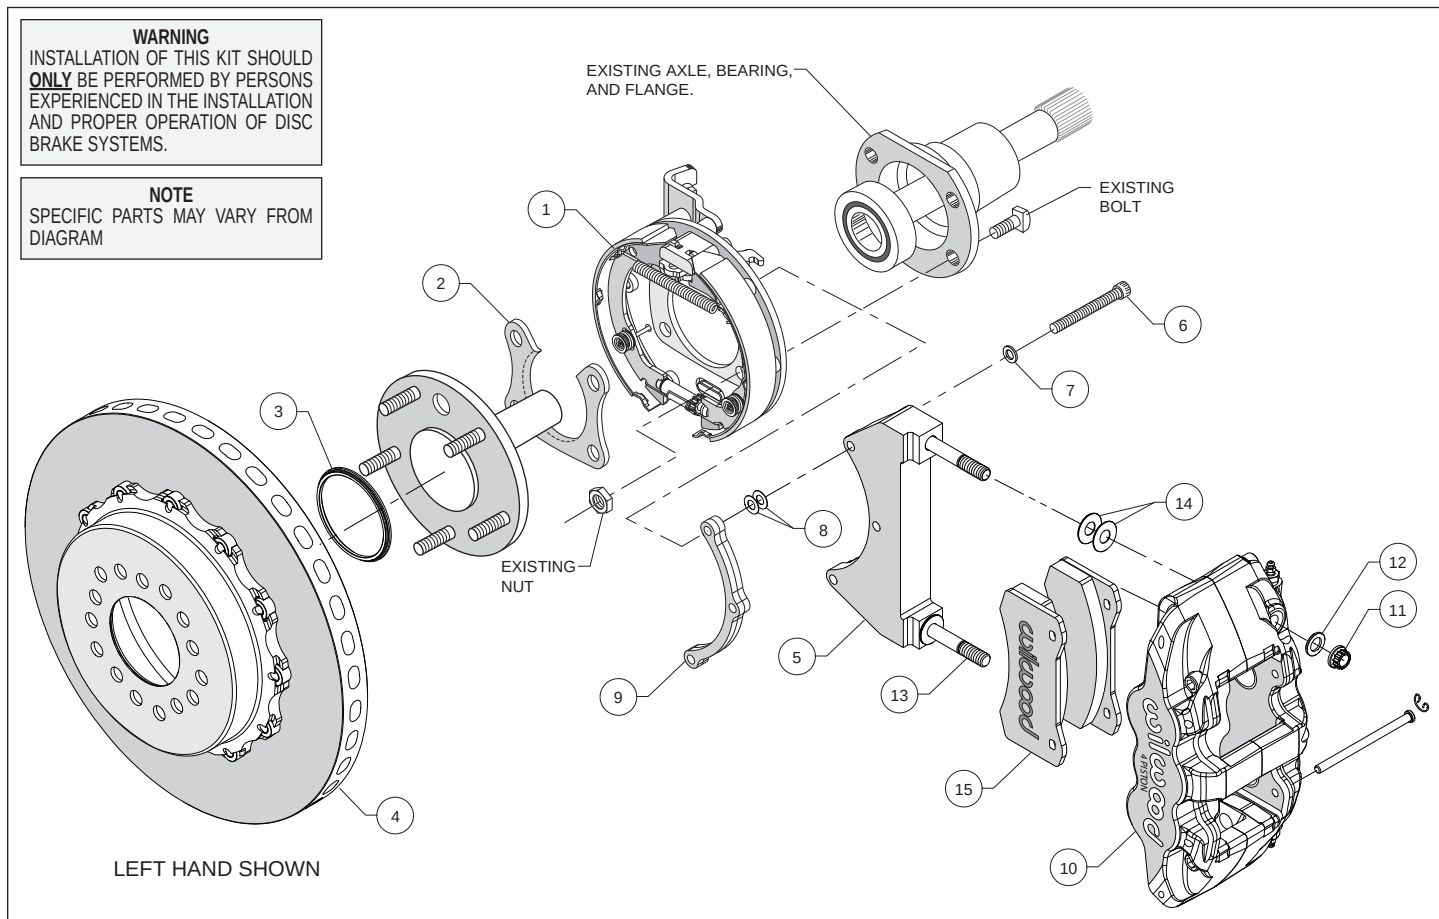

Figure 1. Typical Installation Configuration
Assembly Instructions (numbers in parenthesis refer to the parts list, and Figure 1 on the preceding pages): **CAUTION:** All mounting bolts must fully engage threaded holes.
- Orient the bracket assembly (1) as shown in Figure 1 and Photo 1 and slide it onto the axle. Insert the axle and bracket into the axle housing. Ensure that the bracket assembly backing plate fits flush against the axle housing flange.
- Install the bearing retainer (2) with the opening pointing upward and the lip facing inward (toward the bearing), as shown in Figures 1 and 4, and Photo 2. Secure retainer and bracket assembly to the axle housing flange using the Original Equipment Manufacturer (OEM) bolts and nuts, Figure 1. Apply red *Loctite*® 271 to the OEM bolt threads and torque to OEM specifications.
- Slide the rotor registration adapter (3) onto the axle flange with the smaller O.D. facing toward the rotor/hat, Photo 3.
- Align the correct hole pattern in the rotor/hat with the stud pattern on the axle flange and slide into place, Figure 1 and Photo 4.
- NOTE:** Please reference the caution statement at the beginning of the assembly instructions. The caliper mounting bracket (5) should be installed first with clean, dry threads on the mounting bolts. Install the caliper bracket to the bracket kit assembly (1) using bolts (6), washers (7), and spacer (9), as shown in Figure 1. Initially place two .015" thick shims (8) on each bolt between spacer and the caliper bracket. Temporarily tighten the mounting bolts. **NOTE:** The bracket must tighten squarely against the back side of the bracket kit assembly. Inspect for interference from casting irregularities, machining ridges, burrs, etc. Later, after the caliper alignment has been checked, the mount bolts will be secured using red *Loctite*® 271.
- Lubricate the caliper mounting studs (13) with lightweight oil. Initially place two .030" thick shims (14) on each stud between the caliper and the bracket, as shown in Figure 1 and Photo 5. Mount the caliper (10) onto the bracket (5) using lock nuts (11) and washers (12), Figure 1. Temporarily tighten the lock nuts. View the rotor through the top opening of the caliper. The rotor should be centered in the caliper, Photo 6. If not, adjust by adding or subtracting shims (8) between the bracket and the spacer. Always use the same amount of shims on each of the three mounting bolts. **NOTE:** The ends of the mounting bolts must fully engage, but not exceed, the inside face of the clinch nuts in the backing plate. If needed, add or subtract spare shims (8) and/or washers (7) under the bracket bolt heads to achieve proper clinch nut engagement. Once the caliper alignment and clinch nut engagement are correct, remove the bracket mounting bolts one at a time, apply red *Loctite*® 271 to the threads, and torque to 180 in-lbs.
- Remove the two pad retaining pins from the caliper by carefully popping out the pin retaining clips and sliding out the pins. Insert the brake pads (15) into the caliper from the bottom, Figure 1